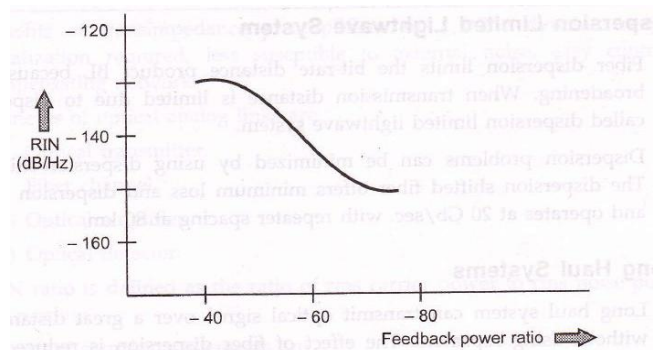

Fig. 6.2.11 Feedback power ratio (dB)
- The optical reflection generated within the systems is to be minimized. The reflected signals increase the RIN by 10 – 20 dB. Fig. 6.2.11 shows the effect on RIN due to change in feedback power ratio.